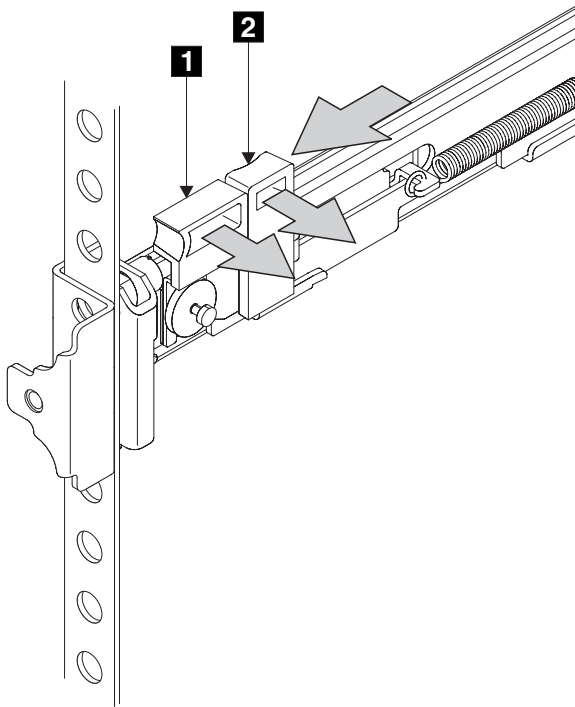

Figure 78. Closing the latch-lock carrier assembly
8. Push the latch lock **2** (Figure 78 on page 90) away from the rail to release the carrier. The latch-lock carrier slides toward the front of the rack and the locating pins project through the holes that are in the front flange and in the front rail bracket.